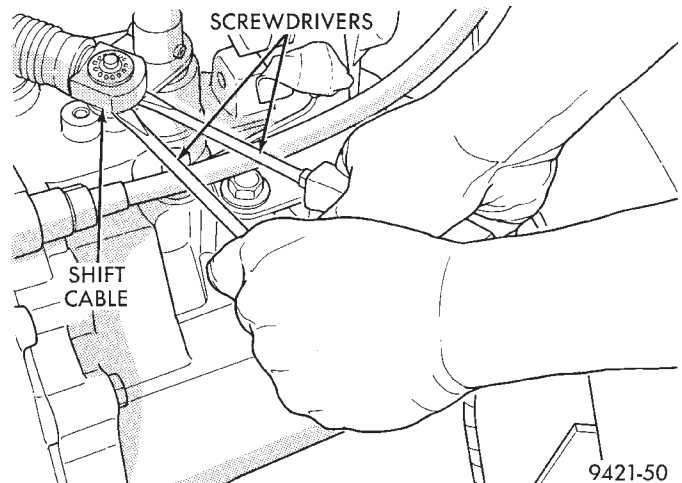

Fig. 20 Shift Cables
- (4) Remove selector lever cable at transaxle (Fig. 20).
- (5) Remove crossover lever cable at transaxle (Fig. 20).